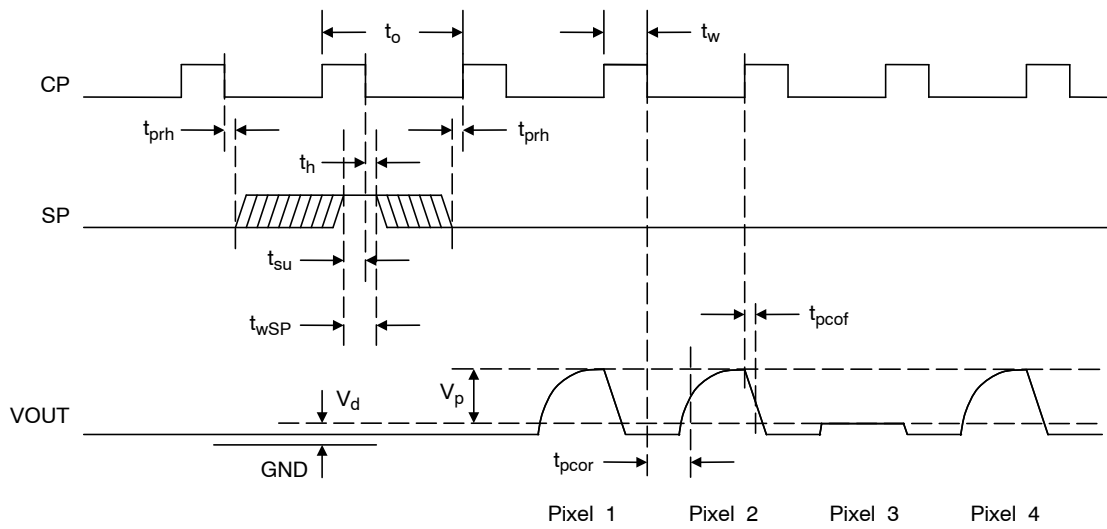

Figure 3. Timing Diagram
2. Refer to Figure 3 for more information on AC characteristics.